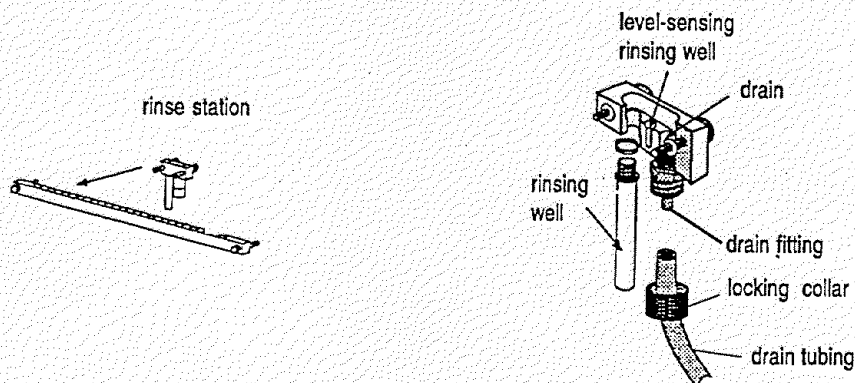

Figure 4-7 Installing the Rinse Station and Support Bar
1. Attach the rinse station to the support bar. The default position for the rinse station is the left side of the support bar when the bar is attached to the autosampler. From left to right, the ports in a rinse station are the rinsing well, level-sensing rinsing well, and drain. See *Figure 4-7*. To attach tubing to the drain, locate the drain tubing. Remove the locking collar from the drain fitting. Slide the tubing through the locking collar. Attach the tubing to the drain fitting. Then screw the collar onto the drain fitting. Place the other end of the tubing in a drain receptacle, located lower than the tray.